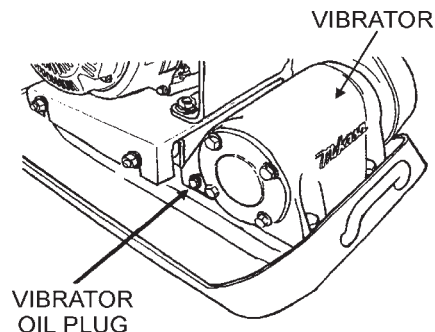

Figure 7. Vibrator Oil Plug
2. Check vibrator oil level by removing the plug (vibrator oil gauge) as shown in Figure 7. The oil level should be up to the oil plug. If oil is required, replace using only SAE 10W-30 motor oil.